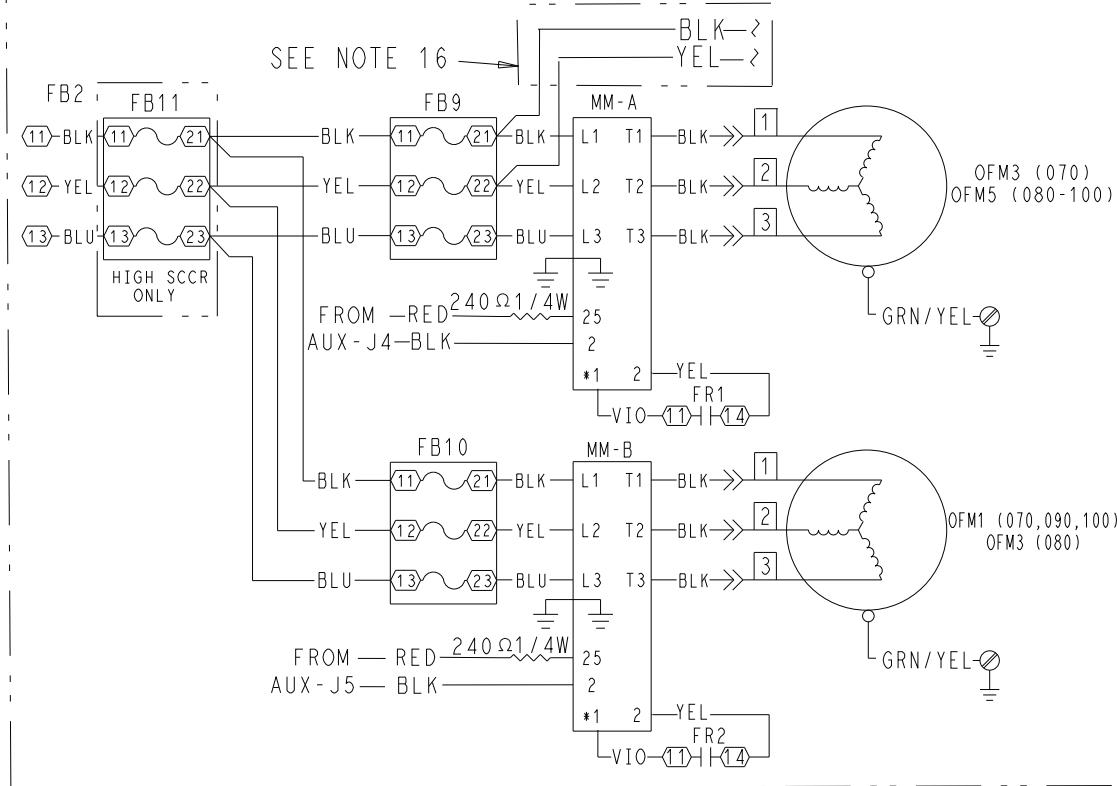

Fig. 18 — Motormaster V Power Wiring — 38APD070-100 Units
Perform the following procedure to modify the control box for the accessory. See Fig. 18 and 19 for wiring details.
4. Connect fan wires from fan motor to terminals T1, T2, and T3 per Fig. 18.
- a. Connect BLK, YEL and BLU wires from harness (part no. 38APHLSLFV-A00) to fuse block 9 and 10 (FB9 and FB10) and the other end to MM connection L1, L2 and L3 per Fig. 18.
- c. Connect VIO and YEL wires to terminal 14 and 11 of FR-1 and FR-2 per Fig. 18.